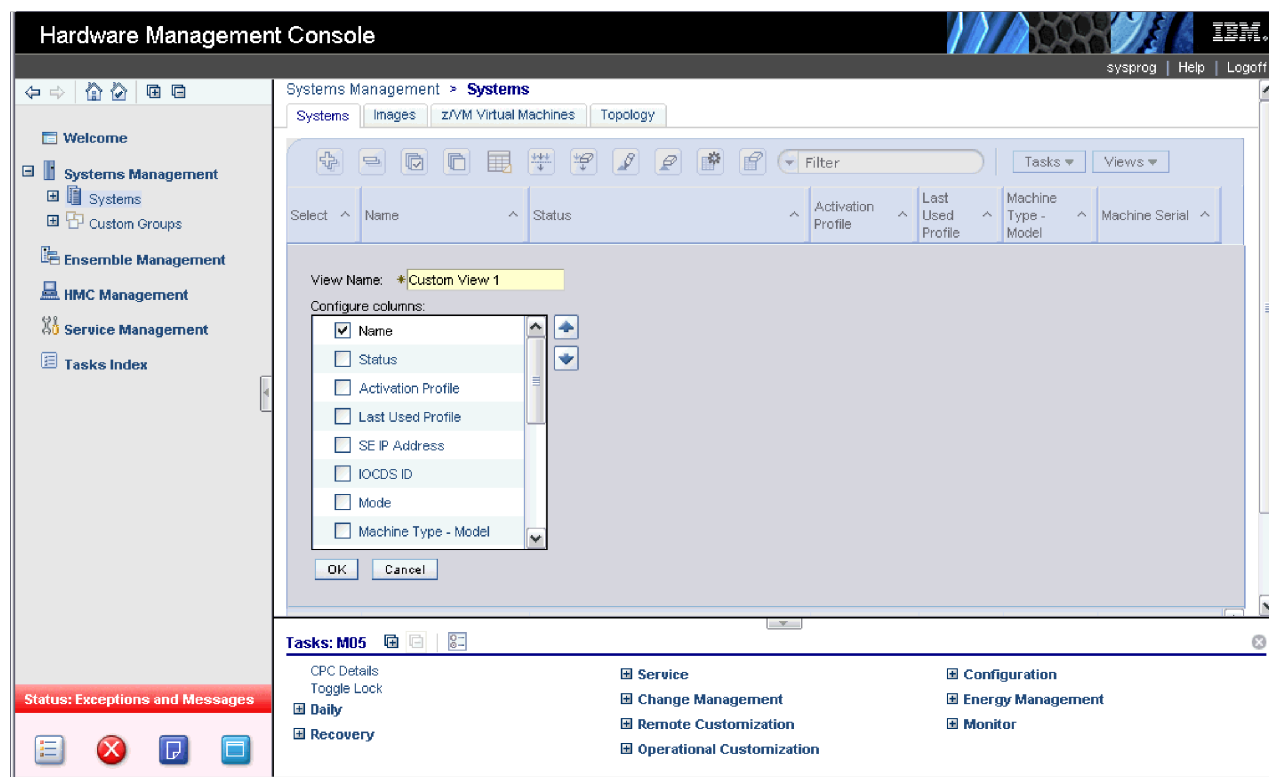

Figure 28. Custom table view
3. You can specify a unique name for your custom view in the **View Name:** input field (see Figure 28 on page 38).